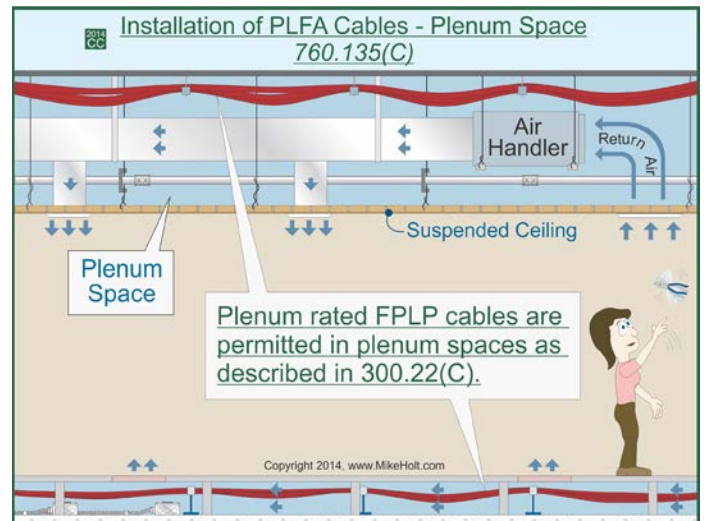

Figure 760-18
**(A) Listing.** PLFA cables installed in buildings must be listed.
**(C) Plenum Spaces.** Plenum rated FPLP cables are permitted in plenum spaces as described in 300.22(C). Figure 760-18